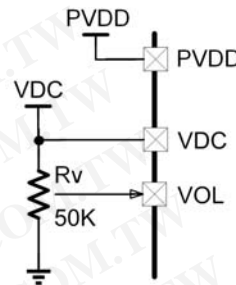

Fig.18a. Potentiometer DC volume control
(1) Using potentiometer, as shown in Fig.18a. The DC control signal is generated by the resistor divider from VDC. VDC directly connects the MT6823 Pin5.